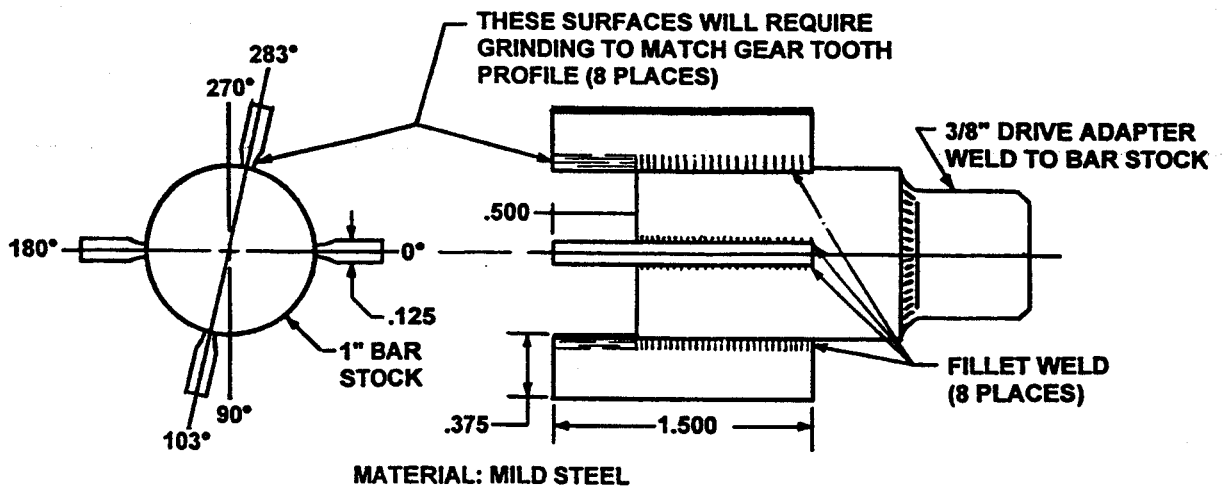

FIGURE 3
2. Figure 3 provides necessary dimensions to produce a tool for checking coupling slippage torque.